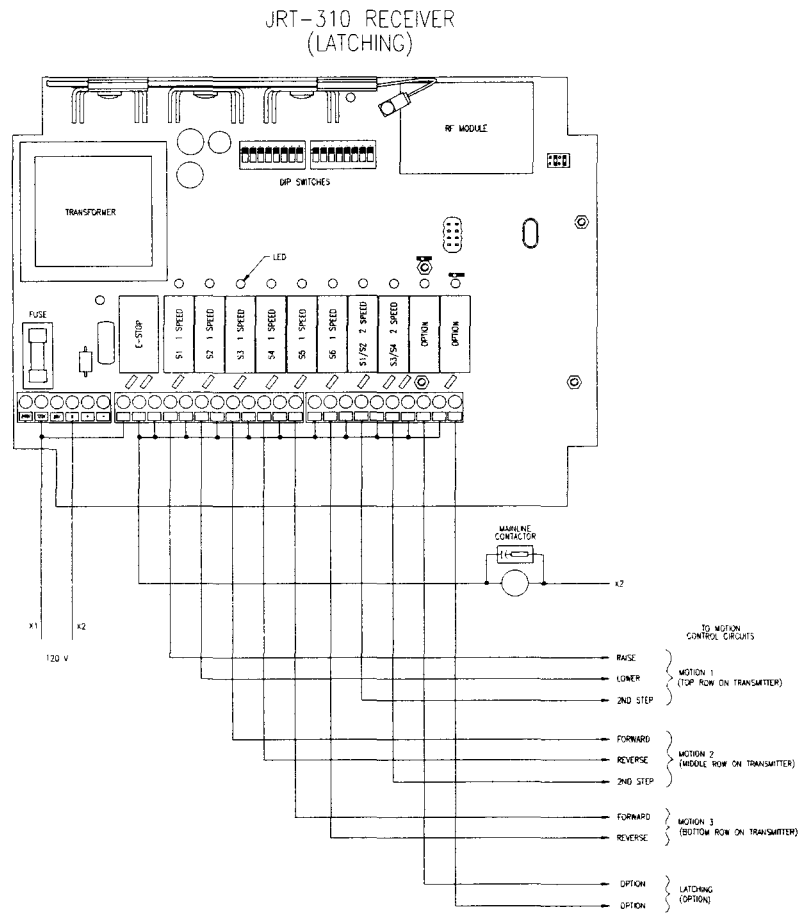
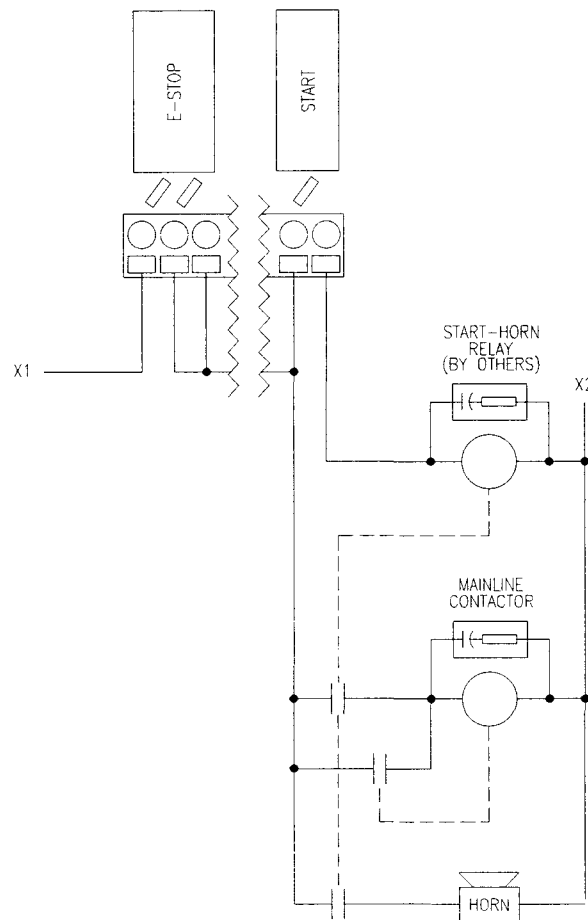

Figure 2.6: PulseStar jr. Receiver Circuit Board for A/B Select
Figure 2.9
- If you are connecting the PulseStar•jr. receiver to a horn, refer to Figure 2.6: PulseStar•jr. Receiver Circuit Board on the previous page and then refer to Figure 2.9.